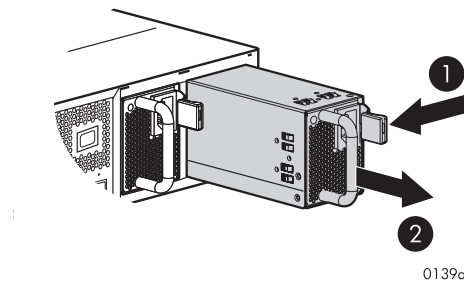

Figure 3 Removing a power supply
- While moving the wine-colored latch to the left (1, Figure 3), grasp the handle and pull the power supply out of the enclosure (2).